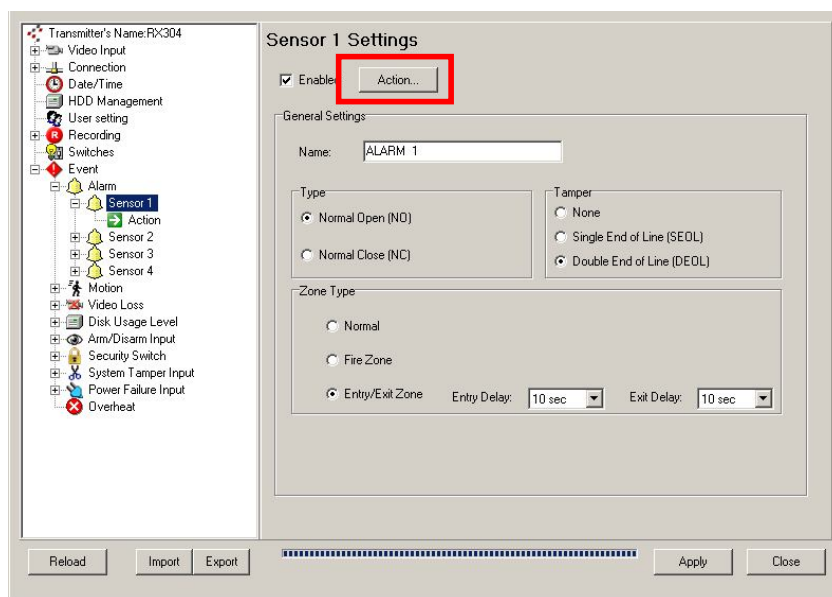

Fig 8.2b
Step 1 : In {**Transmitter Setup**} panel, click [**Event**] → Any event option to pop up any event setting panel. Click [**Action**] button near [**Enabled**] checkbox to pop up {(Event) Action} panel as shown on **Fig 8.2b**.